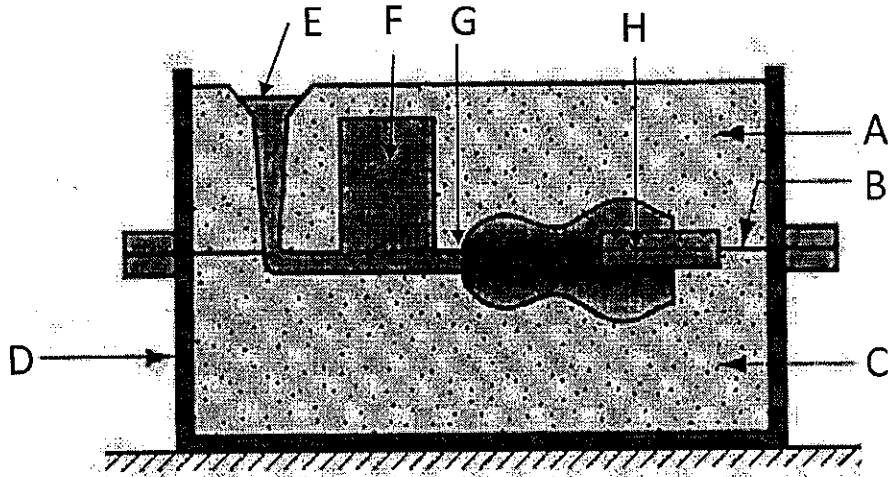

Figure 1
(a) Write down the names of parts A to H as indicated in Figure 1.
- (b) What is the main function of part F and part H in Figure 1?